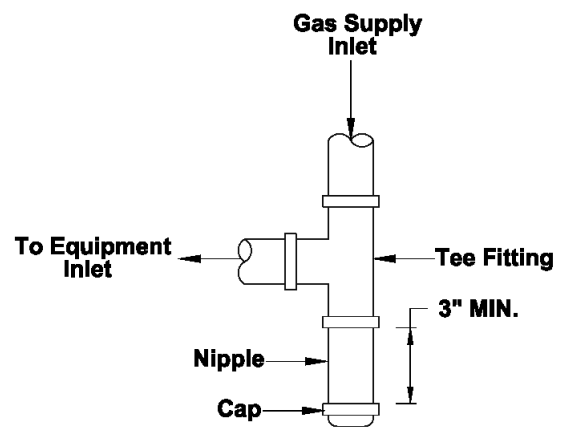

Figure 25 - Sediment Trap (Typical)
- NFPA Code and Hearthstone require the use of a dedicated sediment trap just upstream of the unit. Damage to the valve, or other components due to the lack of a sediment trap are not covered by warranty (see figure 25).